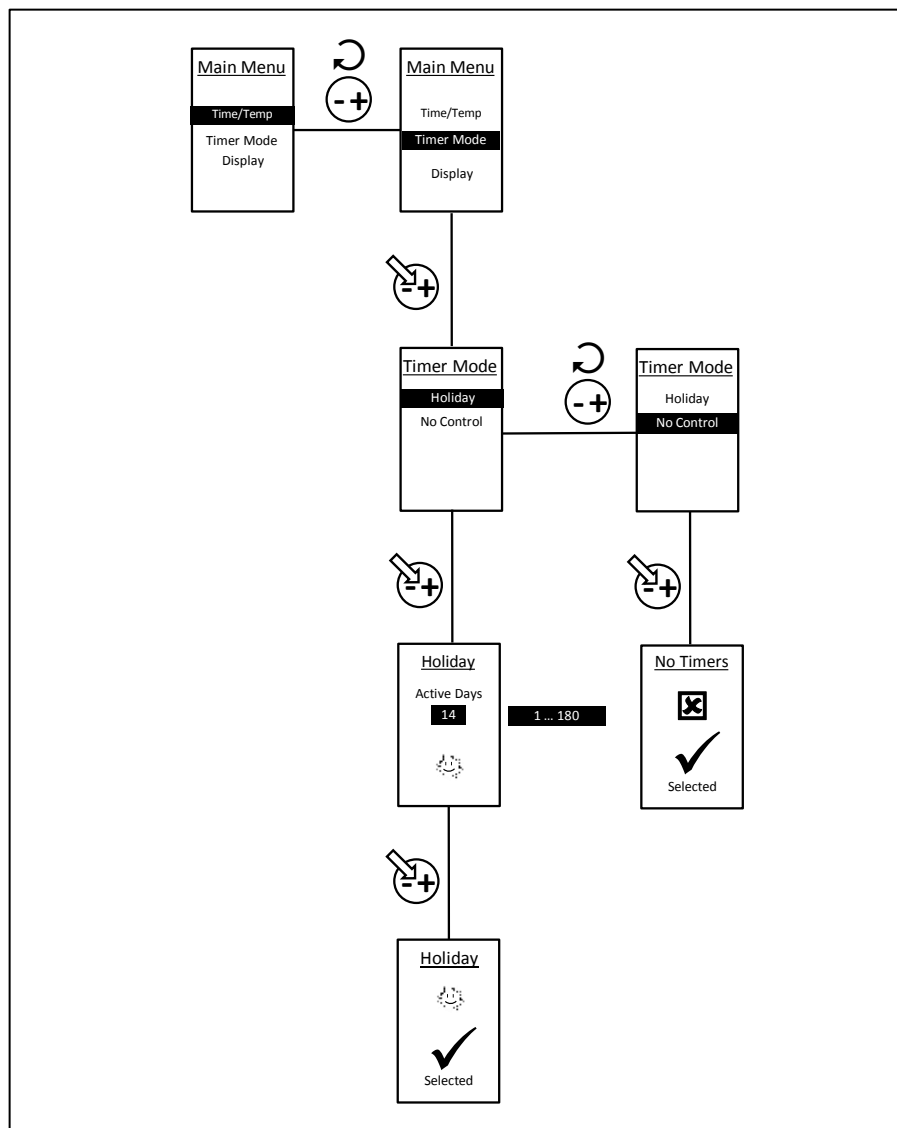

Figure 20: How to Set Timer Modes
- setting of timer modes (see Figure 20)